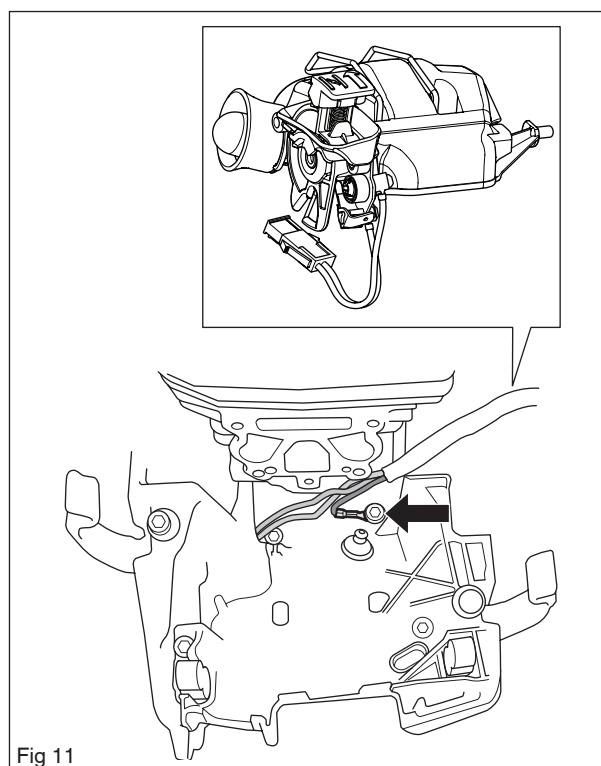

Fig 11
9. Loosen the earth cable. See figure 11. Pull the cables through the openings in the crankcase.
1. Run the cables through the opening in the crankcase. Screw the earth cable in place. See figure 11.